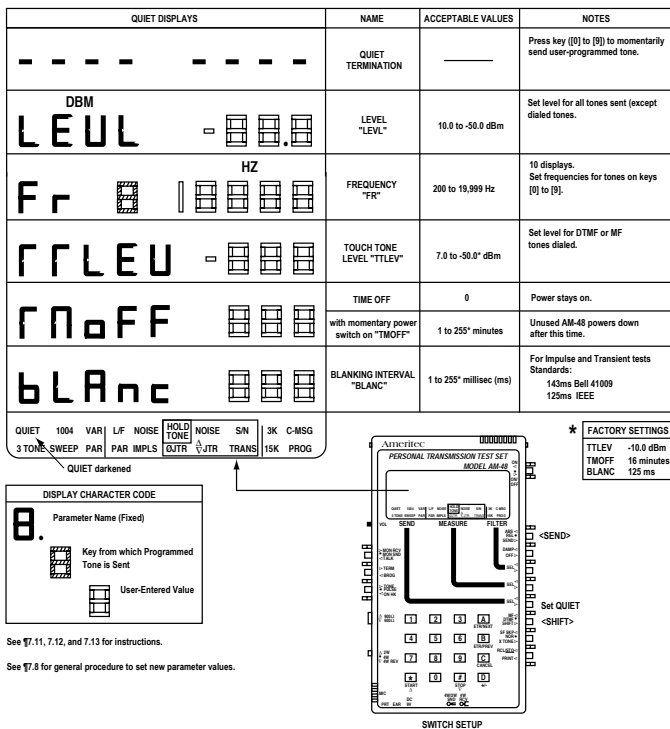

Figure 7-1. Parameter Settings from QUIET SEND Display
| Set Parameter Values | <SHIFT> | Displays in Figures 7-1 thru 7-8 with plain (not cross-hatched) characters | |
1. See Figure 7-1. Set switches per the SWITCH SETUP illustration and the SEND cursor per the menu illustration.
There are a total of 15 displays in the QUIET SEND mode. The third display in Figure 7-1, "FR 8 18888", represents 10 different displays, from "FR 0 18888" to "FR 9 18888".
See Figure 7-1 for all parameter settings in this paragraph. Set switches per the SWITCH SETUP illustration, and set the SEND cursor per the menu illustration.
1. Set Level (see Figure 7-1 and ¶7.8).
2. Set Up to 10 Frequencies, sent with number keys from QUIET display (see Figure 7-1 and ¶7.8).
- a) Go to desired “FR” display - - one (1) of 10.
3. Set Touch Tone Level (see Figure 7-1 and ¶7.8).
4. Set Time Off: operates when power is turned on with the momentary power switch (see Figure 7-1 and ¶7.8).
5. Set Blanking Interval (see Figure 7-1 and ¶7.8).
- e) Note the Bell and IEEE standard settings listed in Figure 7-1.
1. With the switches and cursor set per Figure 7-1, program desired frequencies on the number keys per ¶7.12.2.